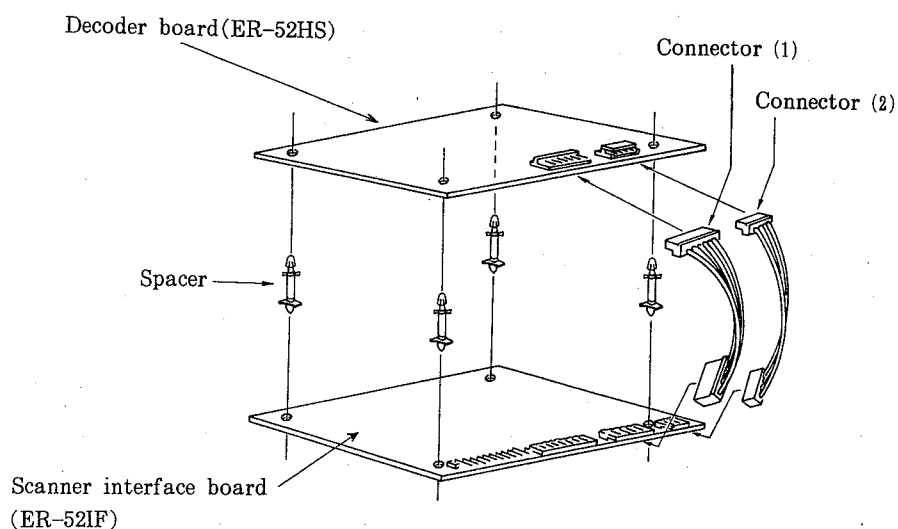

Fig.48
(3) Attach the spacers (4 pcs.) to the scanner interface board (ER-52IF). (See Fig.48.)
(4) Attach the decoder board to the spacers of the scanner interface board, and connect the connectors (1) and (2). (See Fig.48 above.)
(5) Connect the scanner interface board onto the application board.